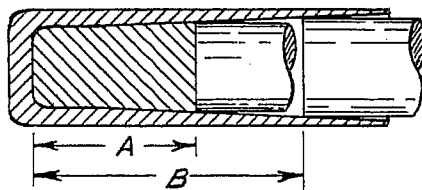

FIG. 5
**(3) BASE PUNCHES IN ANY DIAMETER REQUIRED TO PROPERLY FIT HULLS.** - In order to do a clean neat job of seating cores, the base punch must be a proper fit for the hull to avoid extrusion of lead down around the sides of the punch. Hence, we make punches in any diameter required to exactly match the hull to be used, and where necessary, also the weight bullet to be made. For a hull with a cylindrical inner contour, a single, close fitting punch is sufficient for all bullet weights. Where the inner contour is tapered however, the weight (and hence the length) of the core to be seated must be considered as well as the make of the hull. As shown in Fig. 5, a punch of proper diameter for a core of length A in